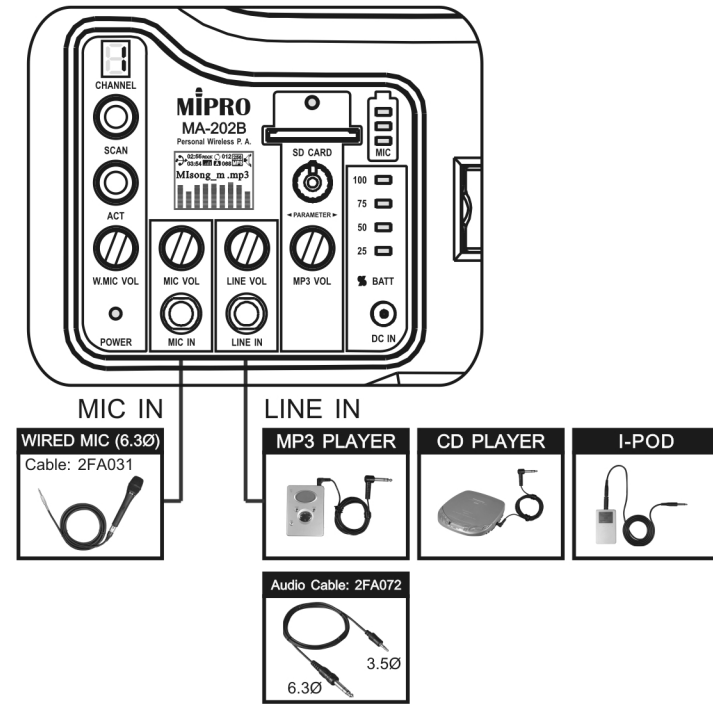

Fig. 34
V. MP3 Player LCD Screen, Fig. 34